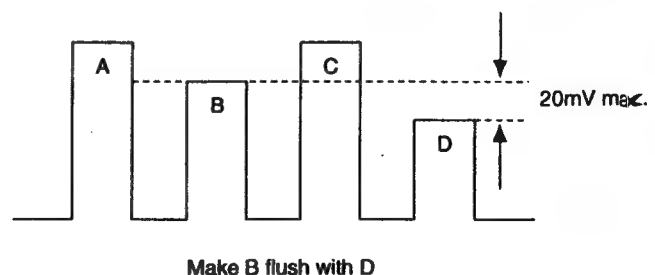

Fig. 5-14
3. Connect the probe of an oscilloscope to IC404 ⑩ PIN or TP402.
5. Adjust **SUB CHROMA SMPTE** so that the levels of B and D will be the same. (Fig.5-14)